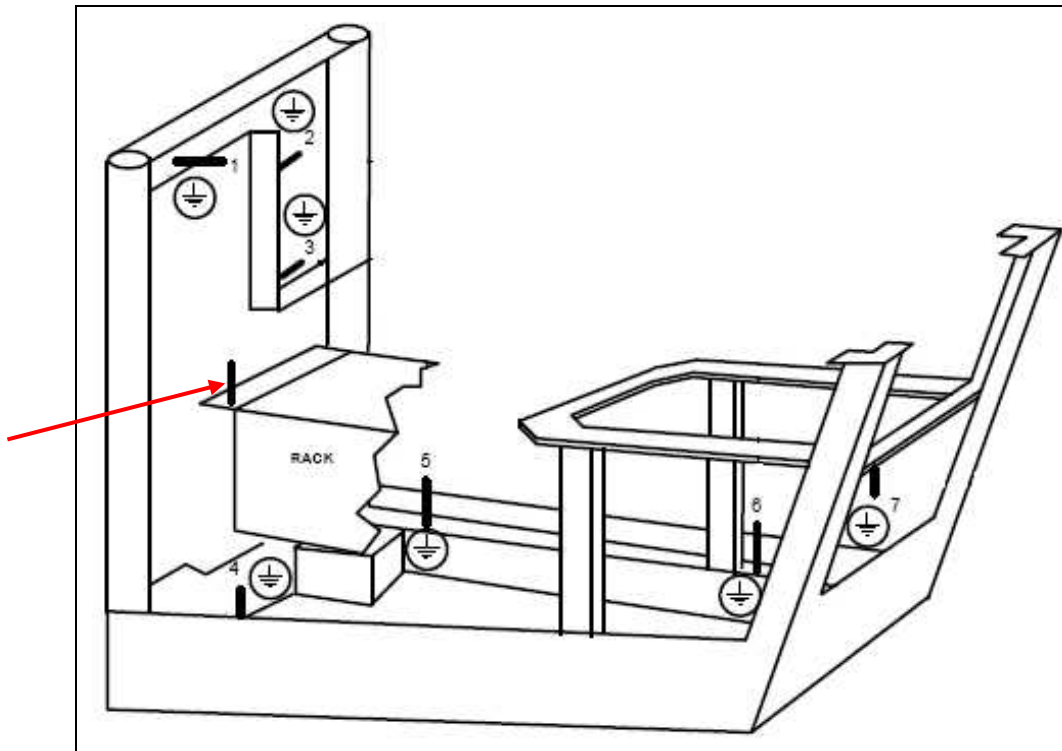

Fig. 12.72-5
- Unscrew the load cell coil cable shield (from the point indicated in the fig.12.72-5);
- Screw the load cell coil cable shield in its point (see fig.12.72-5);